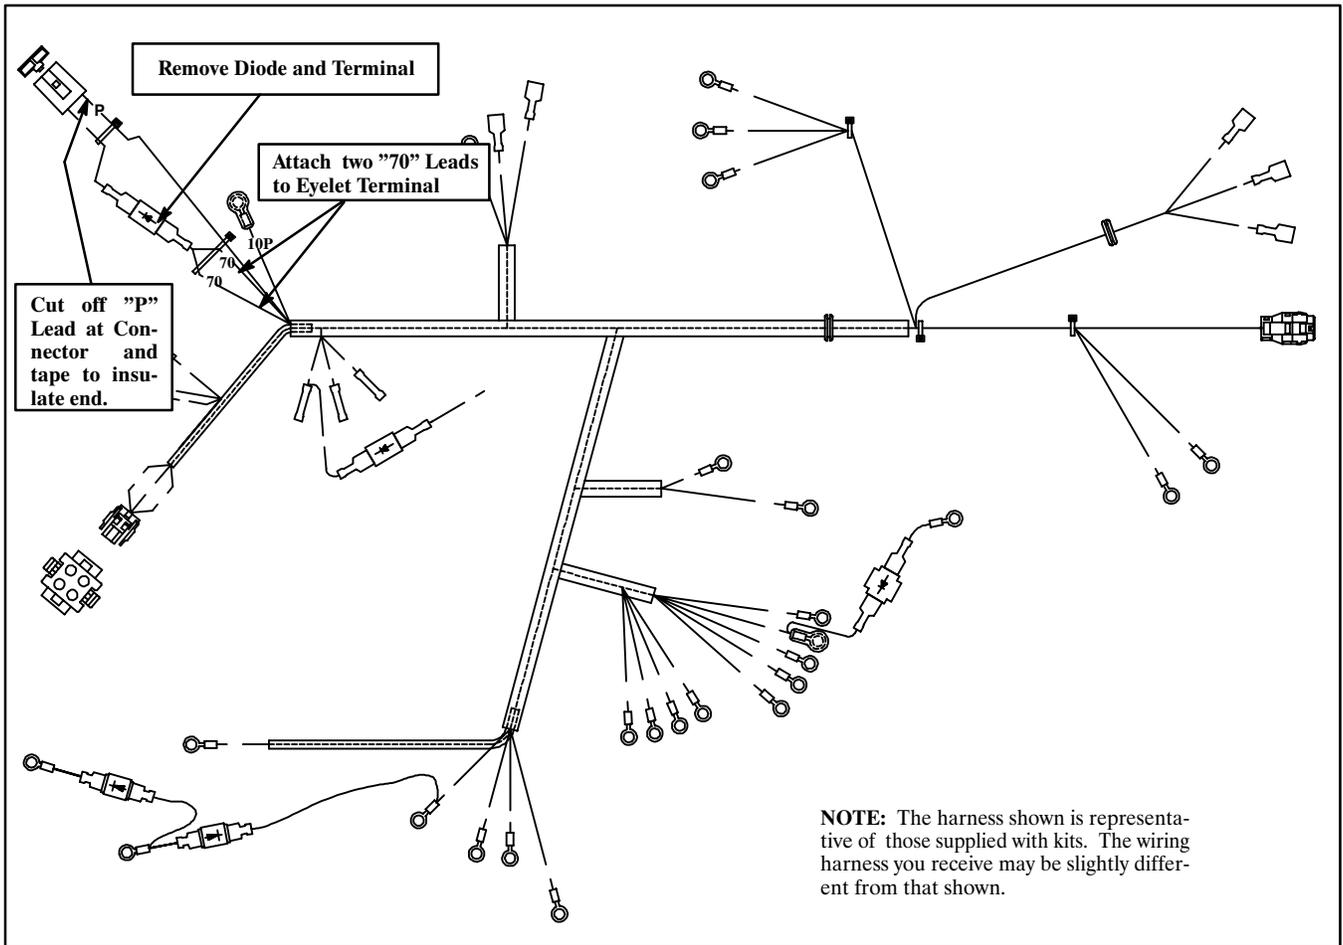

Figure 1. Engine Wiring Harness Modification (sets with Motorola/Prestolite Battery Chargers Only)
2. **Steps 2-4 apply only to 20-180ROZJ generators equipped with Motorola/Prestolite battery-charging alternators.** Using a wire cutter, remove diode assembly and terminal from harness "70" leads that would connect to alternator. See Figure 1.